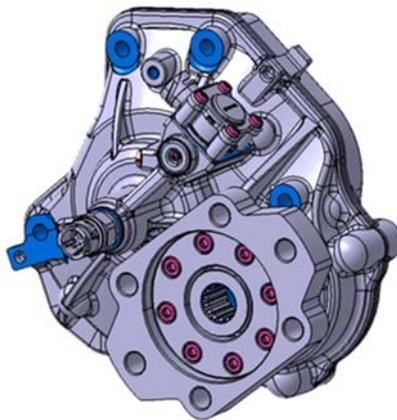

Figure 3: PTO drive assembly shown with SAE-B 2 or 4 bolt configuration.
- The PTO drive assembly mounting flange offers SAE-B mounting for 2 or 4 bolt configurations and an SAE B-B 15 tooth spline as shown in Figure 3 above.